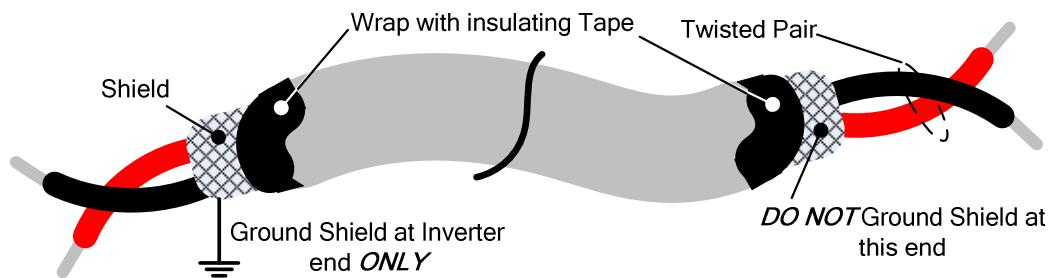

Fig. 3.17.1 Shielded Twisted-Pair
- (1) Separate the wiring for control circuit terminals from main circuit wiring for terminals (R/L1, S/L2, T/L3, U/T1, V/T2, W/T3).
- (2) Separate the wiring for control circuit terminals R1A-R1B-R1C (or R2A, R2C) (Relay outputs) from wiring for terminals ① - ⑧, A01, A02, GND, DO1, DO2, DOG, +10V, (-10V), AI1, AI2 and GND wiring.
- (3) Use shielded twisted-pair cables (#24 - #14 AWG / 0.5 -2 mm²) shown in Fig. 3.17.1 for control circuits to minimize noise problems. The maximum wiring distance should not exceed 50m (165 ft).